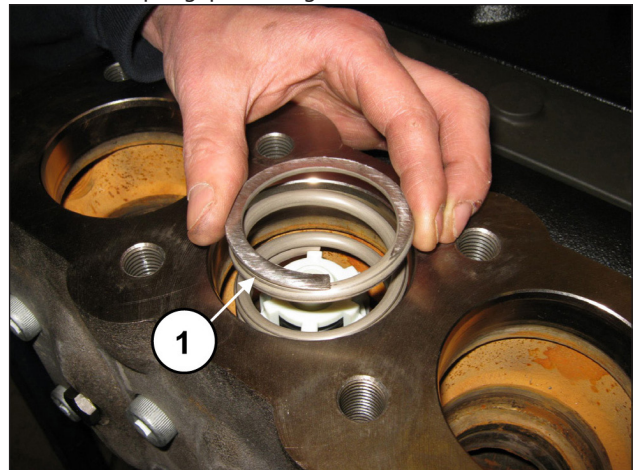

Fig. 97
Remove the spring (pos. ①, Fig. 97).